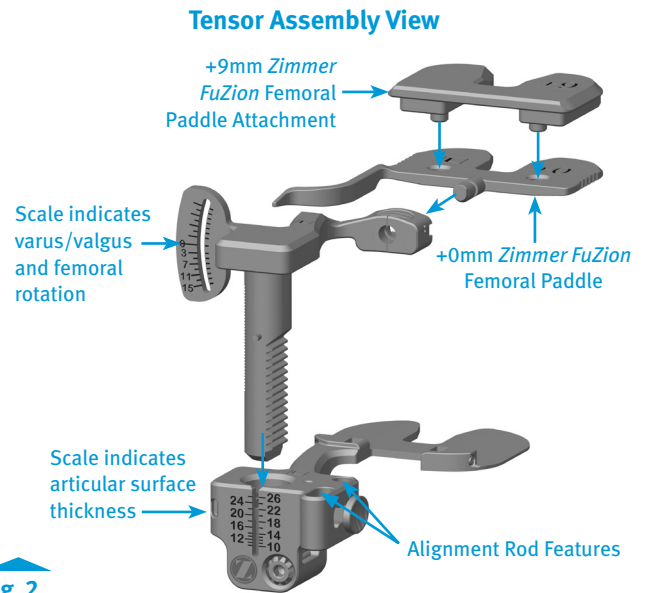

Fig. 2
- Remove all the osteophytes and complete the initial ligament balancing. Place the leg in extension. Assemble the *Zimmer FuZion* Tensor with the +9mm Paddle (Fig. 2). Insert the *Zimmer FuZion* Tensor into the extension gap.
Note: Use the +0mm *Zimmer FuZion* Femoral Paddle to evaluate the joint space prior to resection. Attach the +9mm *Zimmer FuZion* Femoral Paddle to the +0mm *Zimmer FuZion* Femoral Paddle (attachment is magnetic) to evaluate the joint space after the femoral condyles have been resected (Fig. 2).